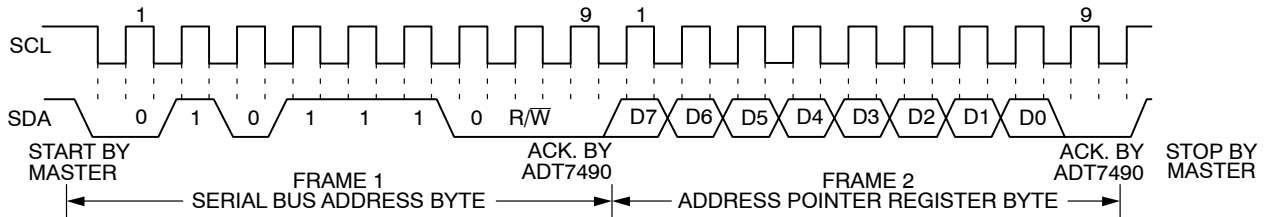
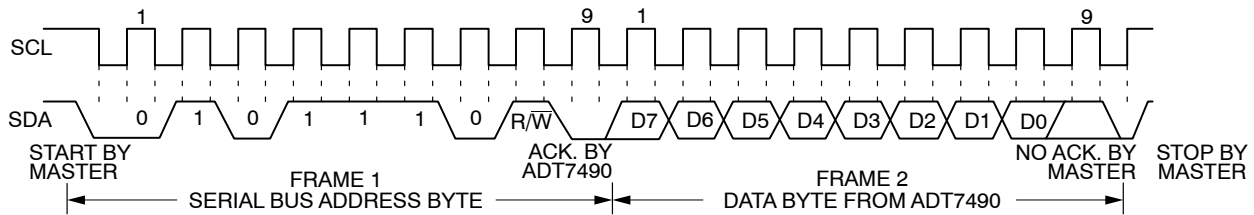

Figure 19. Writing to the Address Pointer Register Only
Figure 20. Reading Data from a Previously Selected Register
1. If the ADT7490 address pointer register value is unknown or not the desired value, it must first be set to the correct value before data can be read from the desired data register. This is done by performing a write to the ADT7490 as before, but only the data byte containing the register address is sent because no data is written to the register. This is shown in Figure 19. A read operation is then performed consisting of the serial bus address, R/\overline{W} bit set to 1, followed by the data byte read from the data register. This is shown in Figure 20.
2. If the address pointer register is known to be already at the desired address, data can be read from the corresponding data register without first writing to the address pointer register, as shown in Figure 20.